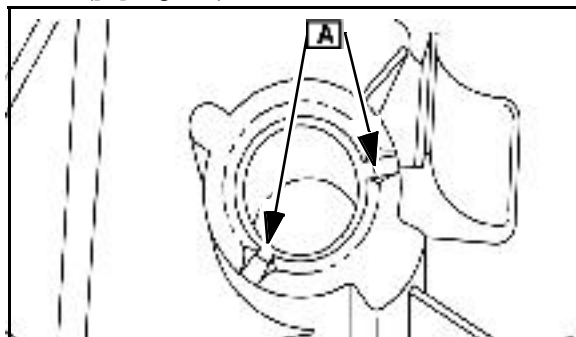

Fig. 32
3. Stake bearing in cylinder where shown ([A] Fig. 32).